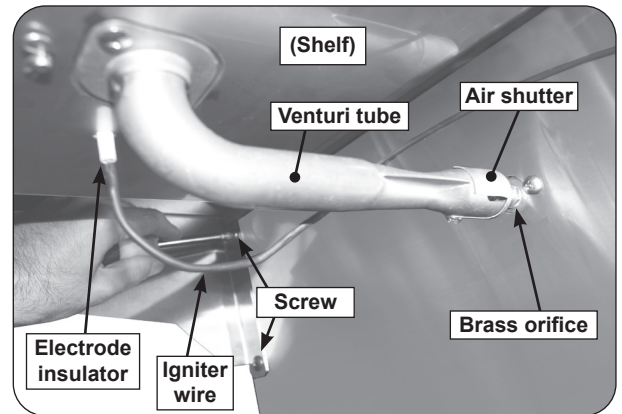

Fig. 21-1 Burner shelf setup (under shelf view)
2. Hold the sideburner shelf up against the left side wall of the grill so that the holes in the shelf line up with the four (4) threaded screw holes in the side wall and the air-shutter end of the sideburner venturi tube fits around the brass orifice protruding from the side of the cart. See Fig. 21-1.
3. Insert and start screws with fingers and then tighten using a Phillips screwdriver. See Fig. 21-1.